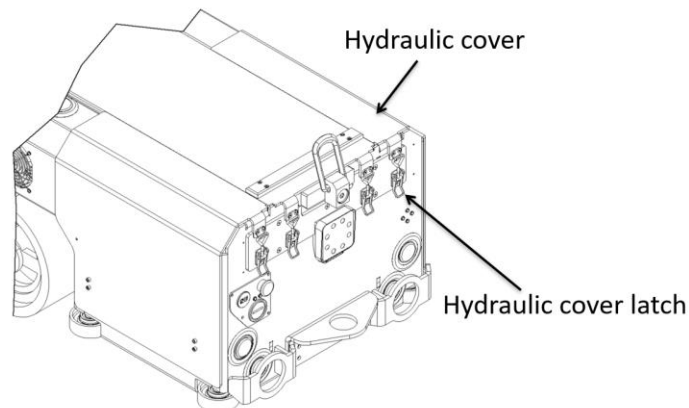

Figure 20 : Hydraulic cover details
2. Remove the hydraulic cover using the latch located at the back of the machine (see Figure 20) to have access to the hydraulic filter.